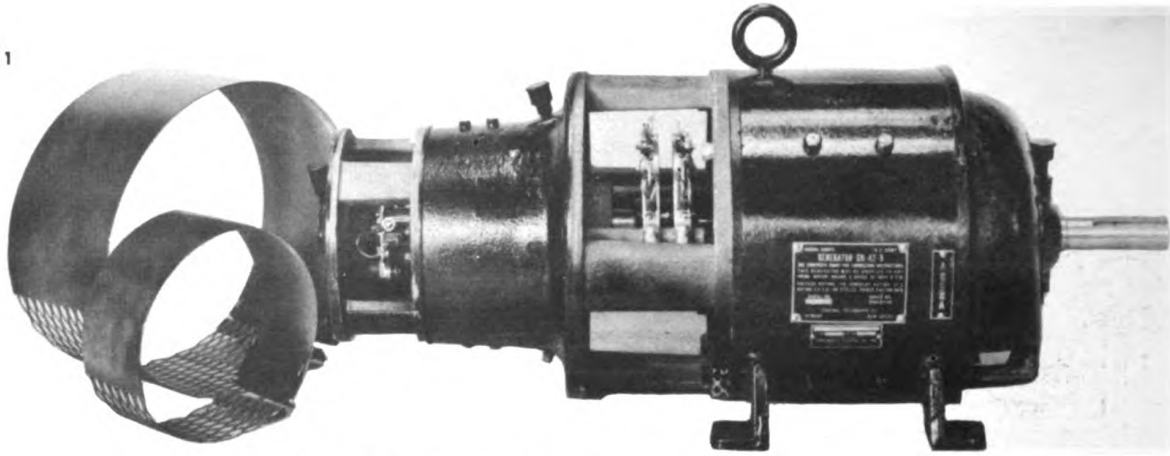

FIG. 24 GENERATOR GN-42-B, DETAILED VIEW
10. GENERATOR GN-42-B AND VOLTAGE REGULATOR (See Fig. 24)